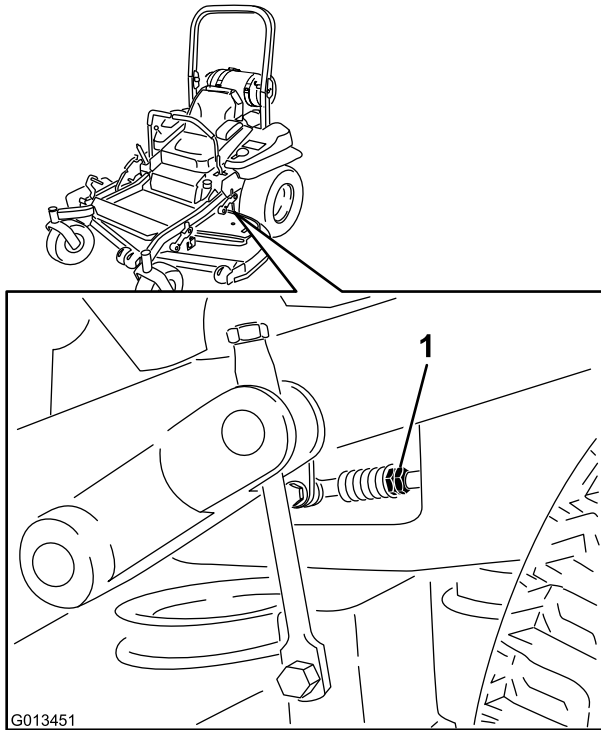

Figure 79
- Bring the motion control levers into the neutral position. Adjust pump control rod lengths by rotating the double nuts on the rod in the appropriate direction until the wheels slightly creep in reverse (Figure 79). Move the motion control levers to the reverse position and while applying slight pressure to the lever allow the reverse indicator springs to bring the levers back to neutral. The wheels must stop turning or slightly creep in reverse.